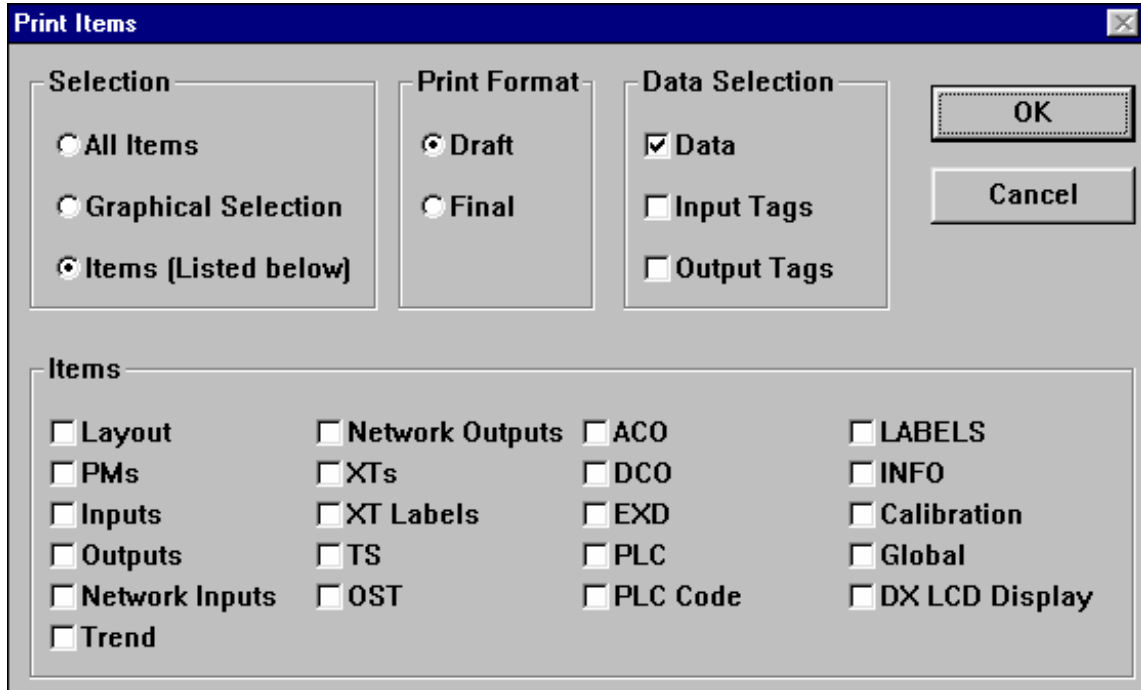

Figure D-5: Print Items Dialog Box
1. On the File menu, click Print. The Print Items dialog box appears (Figure D-5).